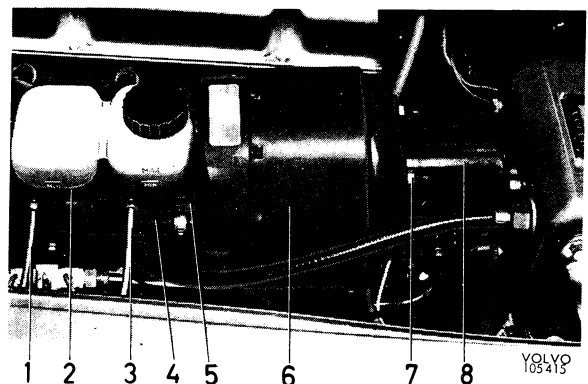

Fig. 5-54. Brake parts
- Connect up the lines, see Fig. 5-54. Depress the pedal and tighten the nuts for the lines when fluid free from air bubbles forces its way out.